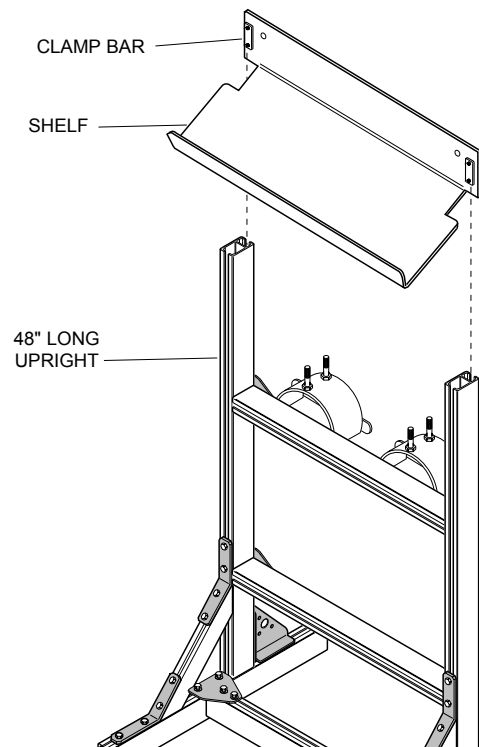

Figure 9.
- Loosen clamp bars on shelf. Mount shelf to frame by sliding down from top with clamp bars inside uprights (Fig 9). Shelf back plate goes on back side of uprights. Top of back plate should be flush with top of uprights.